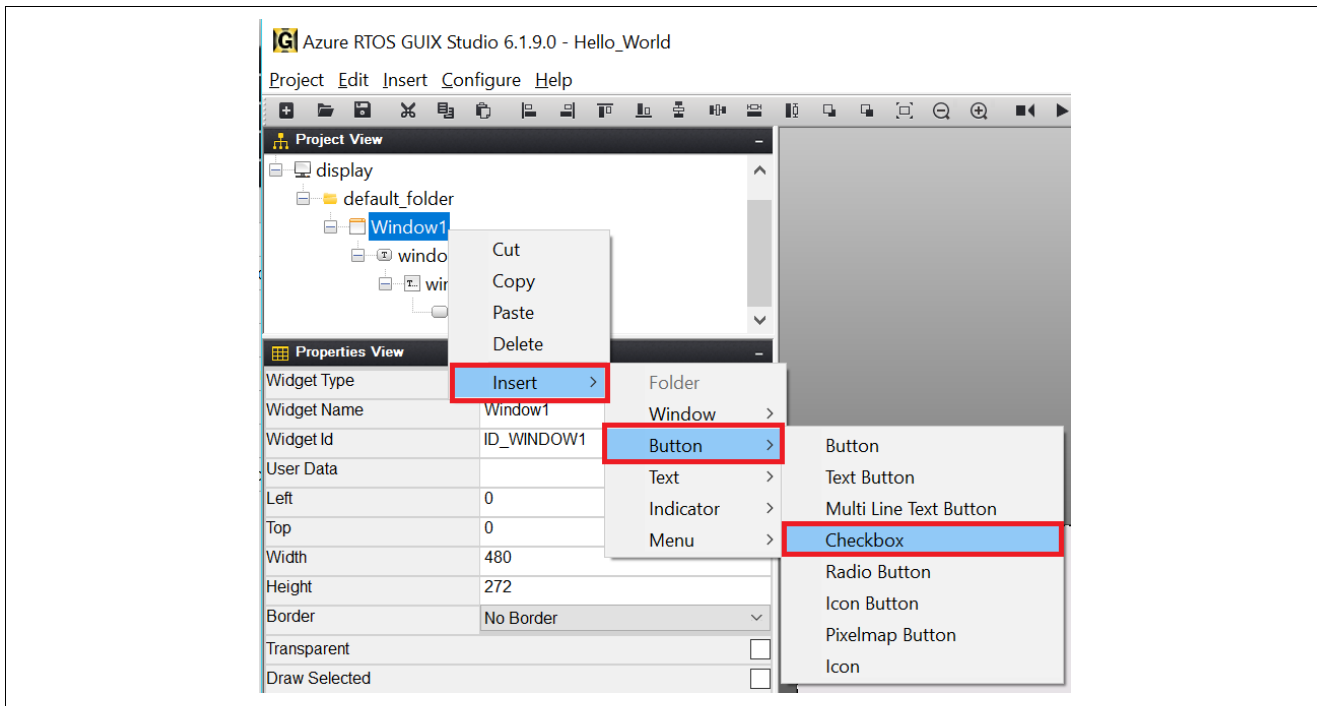

Figure 65. Insert Checkbox
12. Insert **Checkbox**. Right-click on **Window1** and follow Figure 65.